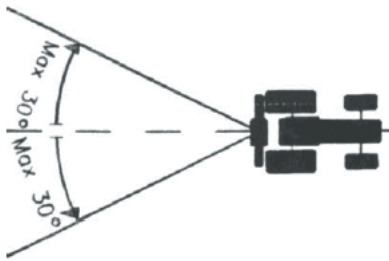

Figure 3
26. When towing observe the maximum allowed angle of 30. (Figure 3).